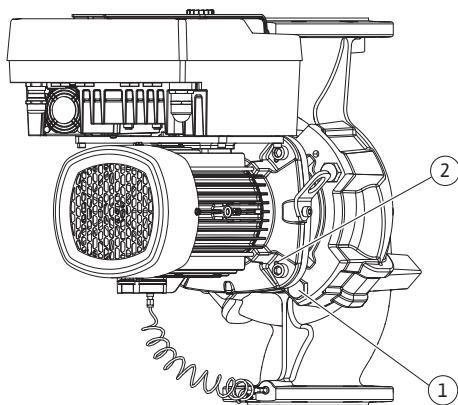

Fig. 111: Pushing off the motor impeller unit via threaded holes (depending on pump type)
23. Press the motor impeller unit out of the pump housing. Use the two threaded holes (see Fig. 111, Item 1) for this purpose.
33. To press the motor impeller unit out of the pump housing, use the two adjacent threaded holes (Fig. 111, Item 1) and use existing or suitable screws provided on-site (e.g. M10 x 25 mm).